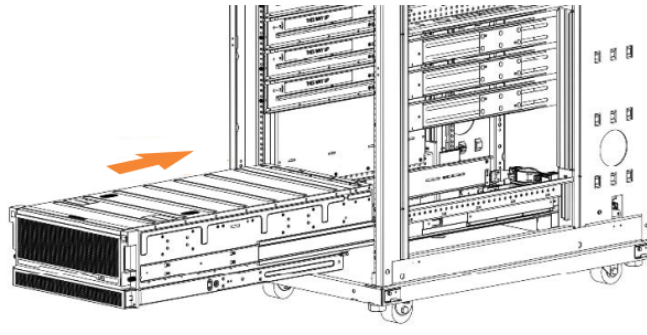

Figure 51. Example installation of the enclosure in the rack
- Install the expansion enclosure in the lowest position in the rack. Figure 51 on page 88 shows an example.